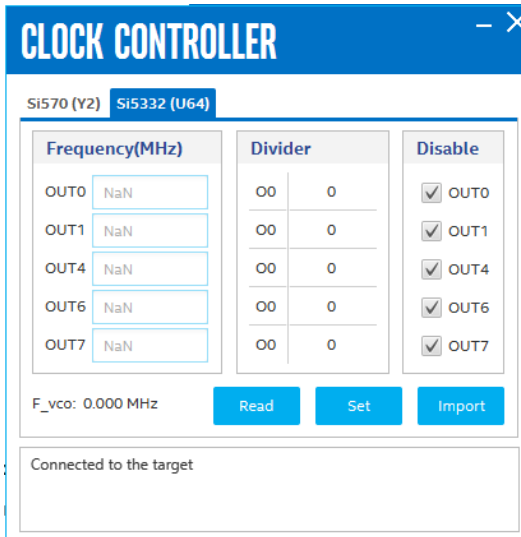

Figure 3. Default Clock Controller GUI for Si5332
- c. By default, the Clock Controller GUI should look like Figure 3